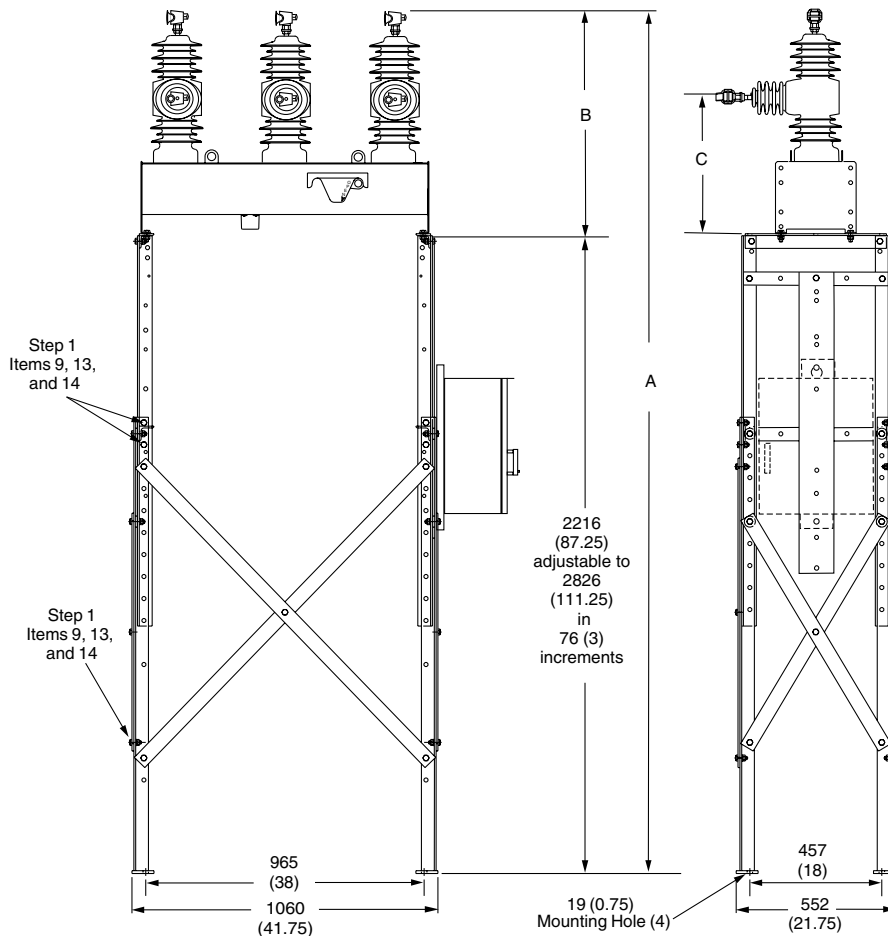

Figure 1. Substation mounting dimensions for NOVA recloser, DAS switch, VCS-3 switch, and TVS sectionalizer.
The upper posts as assembled to the lower posts determine the frame height. The range of frame-heights is shown in Figures 1 and 2 and Table 1. The amount of required overlap (upper post inside lower post) to obtain the desired frame height is shown in Table 1.
- A. Attach one upper post, left (Item 2) to one lower post, left (Item 5) with 1.25" hex head capscrews (Item 9), and secure with lockwashers (Item 14) and .5" hex nuts (Item 13). See Figure 1 or 2.
- B. Attach one upper post, right (Item 3) to one lower post, right (Item 4) with 1.25" hex head capscrews (Item 9), and secure with lockwashers (Item 14) and .5" hex nuts (Item 13). See Figure 1 or 2.